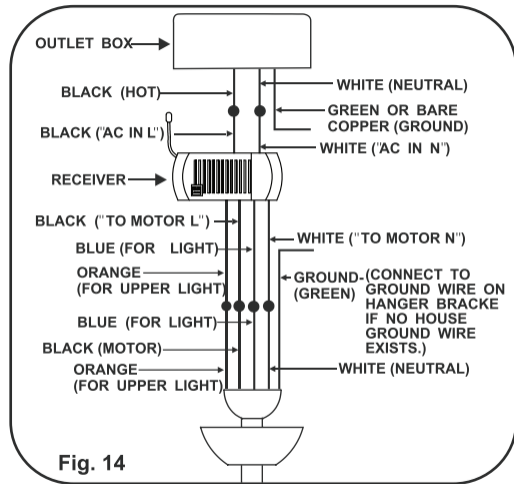

Fig. 14
NOTE: If your ceiling fan features an UP Light: Connect the ORANGE wire from the fan to the ORANGE wire marked "For Up Light" from the Receiver. Otherwise disregard this step and proceed to secure all wire connections with the plastic wire nuts provided. (Fig.14)
Step 3. Receiver to House Supply Wires Electrical connections: Connect the **WHITE** wire(Neutral) from the outlet box to the **WHITE** wire marked "AC in N" from the receiver. Connect the **BLACK** wire(Hot) from the outlet box to the **BLACK** wire marked "AC in L" from the receiver. Secure all wire connections with the plastic wire nuts provided.(Fig.14)
Step 4.If your outlet box has a **GROUND** wire (Green or Bare Copper) connect this wire to the Hanger Ball and Hanger Bracket Ground wires. If your outlet box does not have a Ground Wire, then connect the Hanger Ball and Hanger Bracket Ground Wire together. Secure wire connection with the plastic wire nut provided.(Fig. 14)